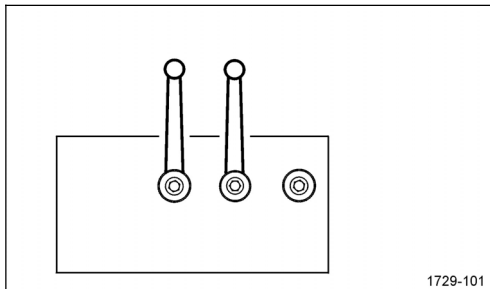

Figure 60
**Note!** For normal production both ball valves must point to the machine (see Figure 60)!
- ❑ Left machine side: Adjust ball valves of the hydraulic block according to Figure 60.